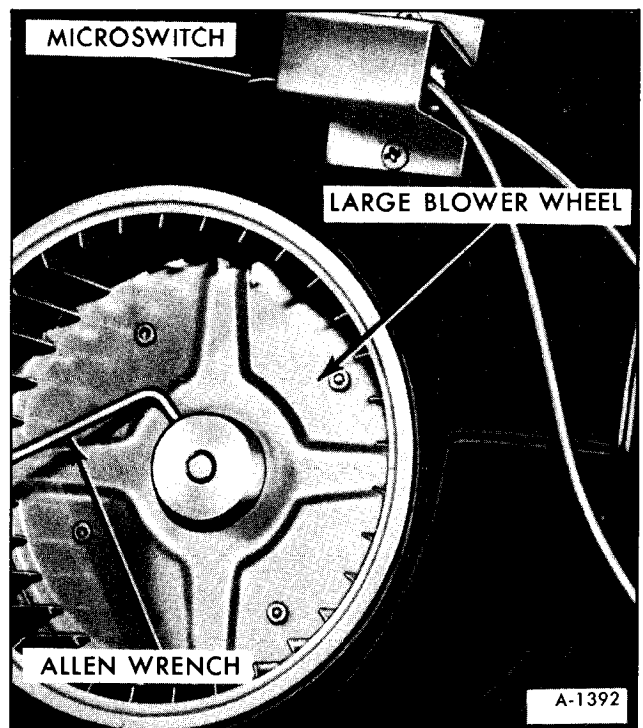

Figure 26–Removing Large Blower Wheel
7. Remove large blower wheel (1/8 inch Allen wrench) (See figure 26).
6. Install large blower wheel on motor shaft (1/8" Allen wrench) (figure 26).
6. Remove large blower wheel (1/8" Allen wrench) (See figure 26).
5. Install large blower wheel (1/8" Allen wrench) (figure 26).